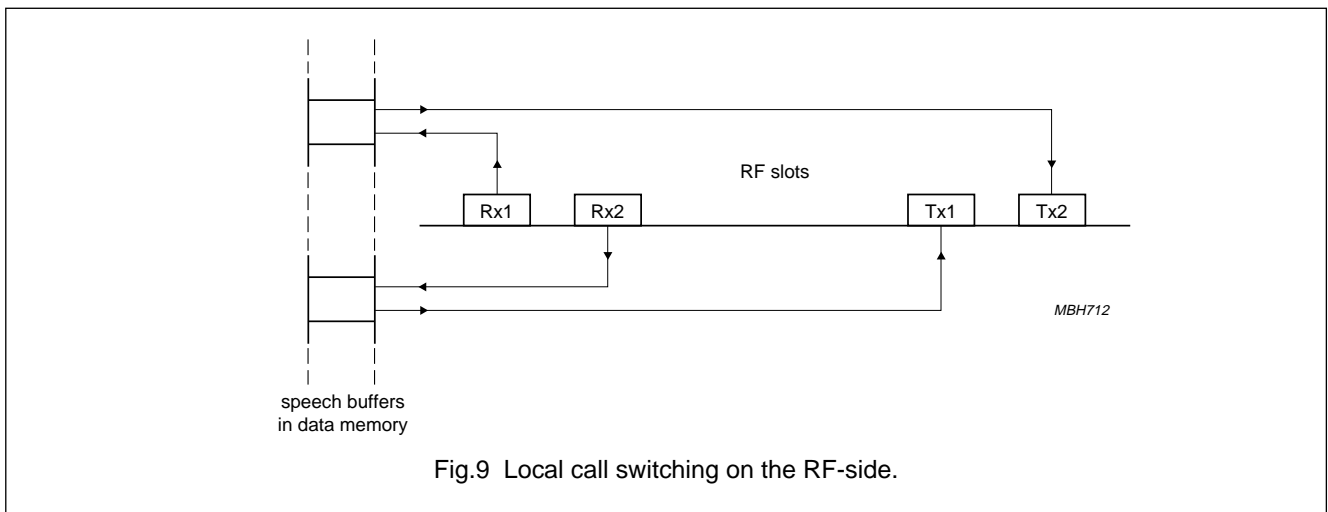

Fig.9 Local call switching on the RF-side.
6.5.7 LOCAL CALL SWITCHING (see Fig.9)